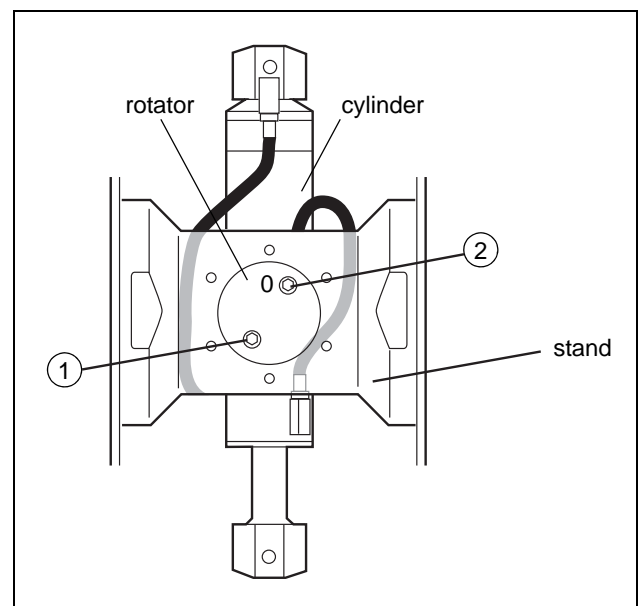

Fig. 12 Connecting the hydraulic hoses
Turn the rotator's hose connections in the direction as shown in adjoining figure. See Fig. 12.
4. Connect the hydraulic hoses. See Fig. 12.